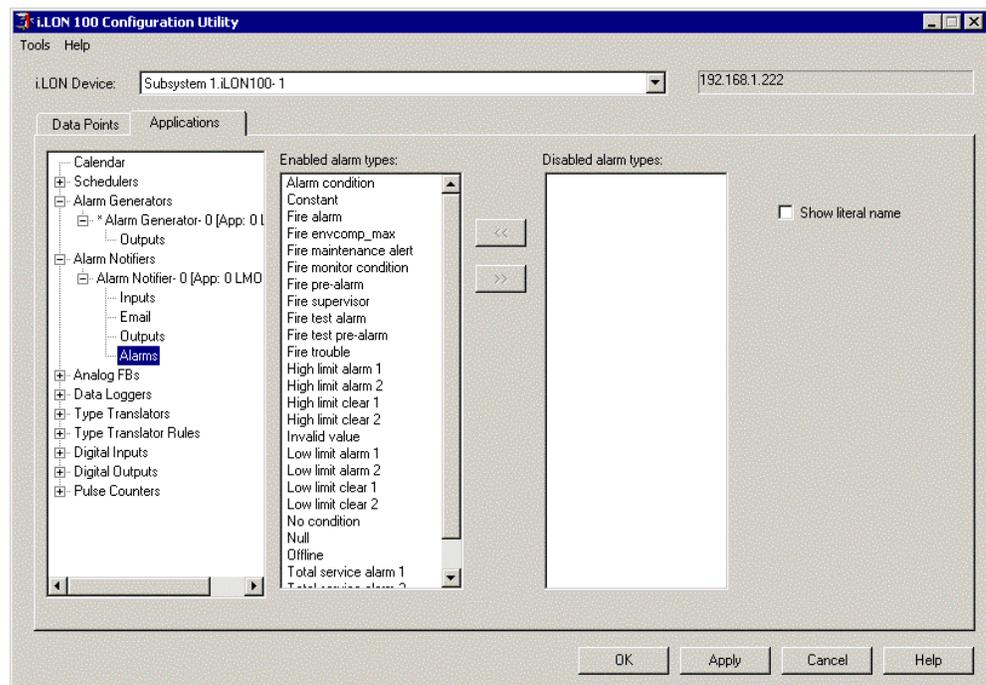

Figure 4.5 Alarms Dialog
17. To enable or disable specific alarm conditions for an Alarm Notifier, select **Alarms** under the selected **Alarm Notifier** in the Application list. This opens the dialog shown in Figure 4.5.